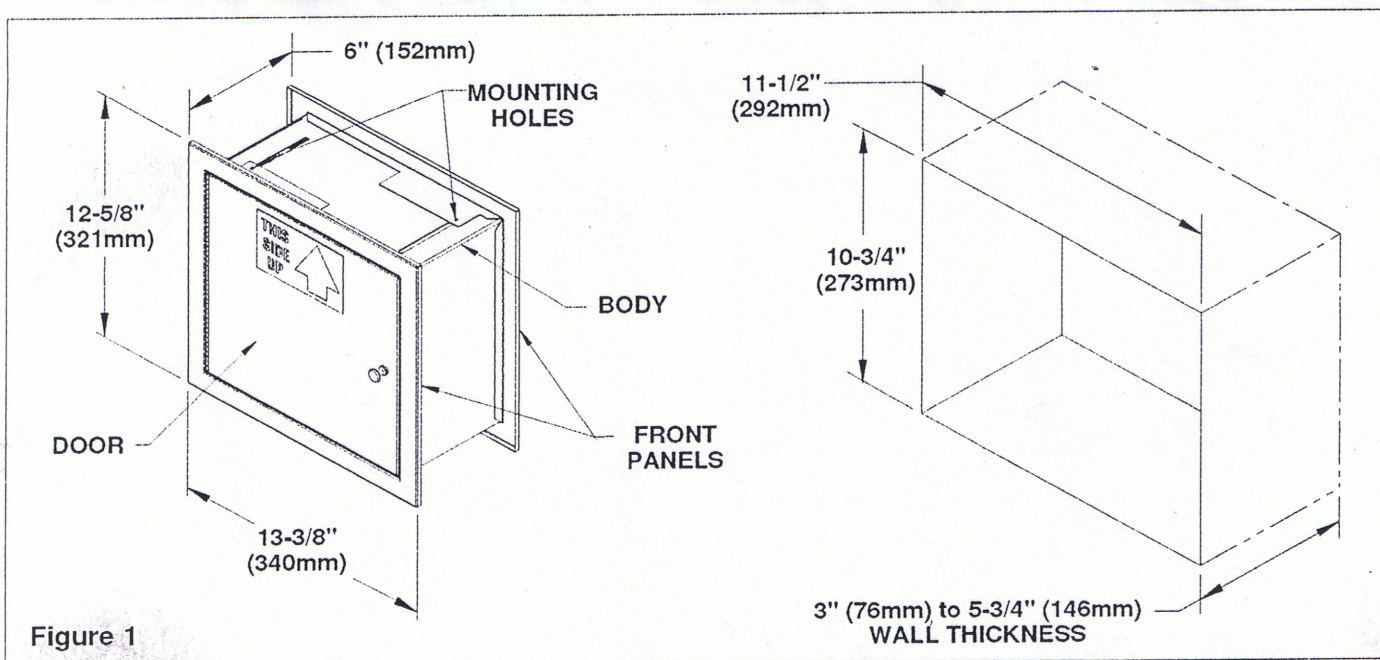

Figure 1
1. Rough-in the wall opening per dimensions shown in Figure 1.
3. Center the cabinet in the wall opening with right side up (arrow on "This Side Up" label points upward as shown in Figure 1).
5. Open the door. Insert the four #10 x 1-1/2" screws supplied through the slots of the body and front panel tabs at the mounting hole locations (Figure 1). **DO NOT tighten the screws at this time!**